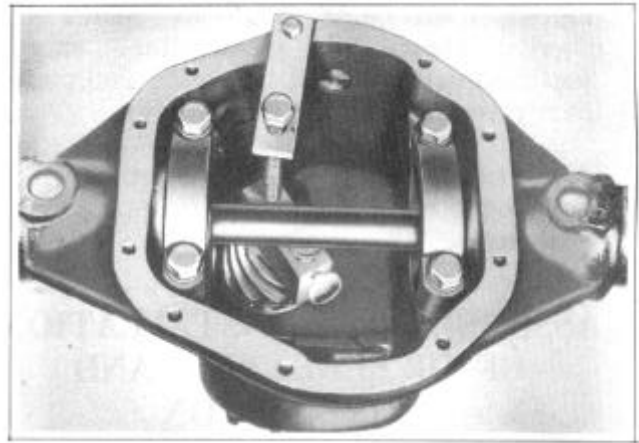

FIGURE 49
14. Check the drive pinion position with pinion setting gauge J-5223, holding the gauge block against rear face of pinion with clamp bar and screw, Figure 49.
15. Mount discs of pinion setting gauge J-5223 on gauge arbor and install gauge in differential bearing bores of axle housing, Figure 49. Place differential bearing caps in position and tighten bolts finger tight. Be sure to clean parts before placing gauge and caps in position.
16. With gauge block held in position against end of drive pinion by clamp screw, loosen thumb screw in end of gauge block and move plunger out of block until head contacts gauge arbor as shown in Figure 49. Lock plunger by turning thumb screw, using care not to disturb plunger position.